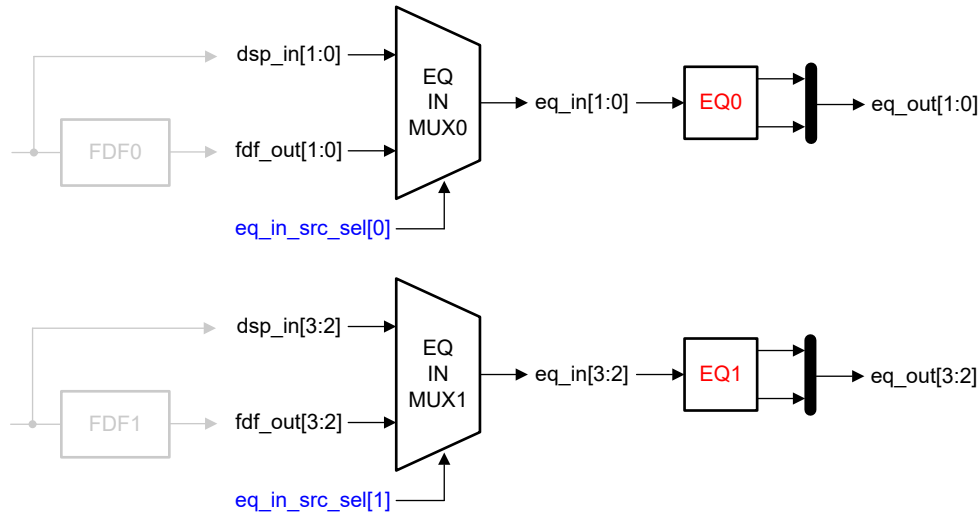

Figure 7-18. FIR Equalizer Configurations
The ADC34RF7x devices include an integrated programmable FIR filter block referred to as an equalizer (EQ). As illustrated in Figure 7-18, there are two EQ blocks (EQ0 and EQ1) which are located at the output of the fractional delay filters (FDF0/1). Each EQ block can source its input data stream from either `dsp_in` directly or from the preceding FDF block. There are a total of four output data streams (`eq_out[3:0]`) where each output stream corresponds to a distinct filtered input stream.